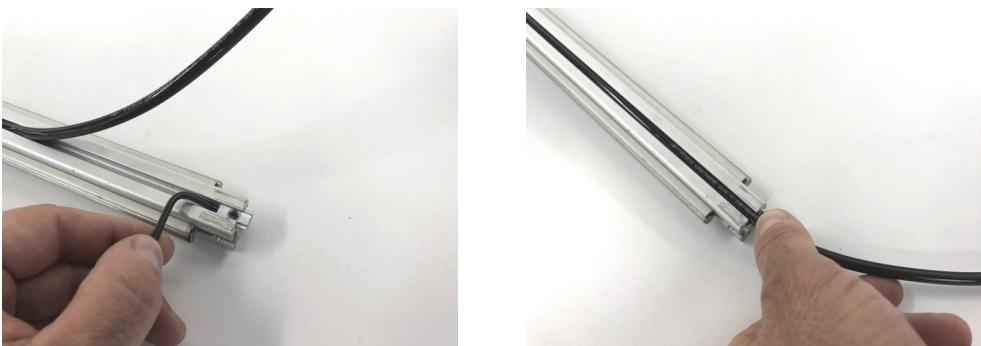

Figure 2-10 Removing the nut (left) and feeding the tube to the frame end (right)
5. Remove the frame nut on the open end of the frame, and push the tube into the frame slot past the frame end (see Figure 2-10 on page 33).